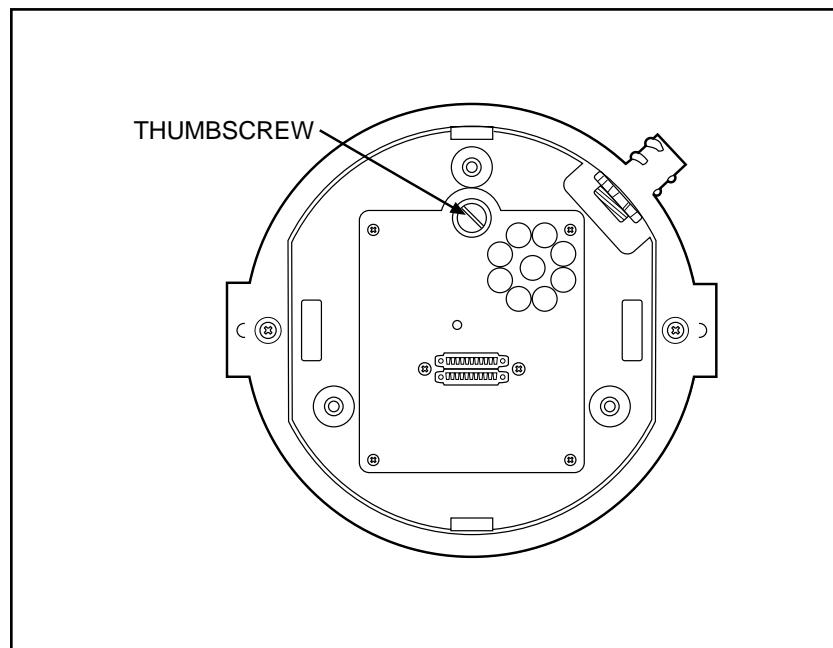

Figure 9. Interconnect Door
To do this, loosen the thumbscrew inside the back box and open the hinged door (refer to Figure 9). Bring the wiring into the back box through the conduit fitting. Follow the steps in Section 3.4, "Back Box Connections," and then return to this section.
3. Refer to Figure 9. Loosen the thumbscrew inside the back box and open the hinged door.